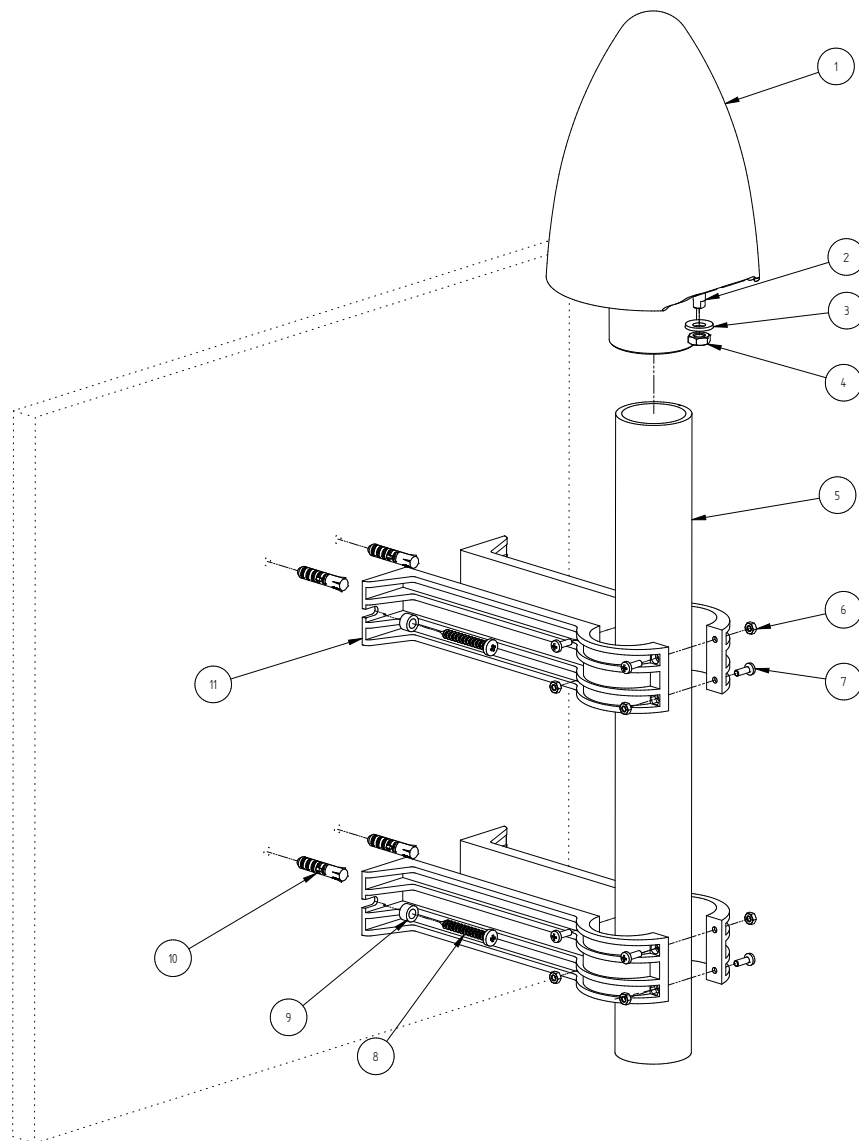

Figure 8.5: Mounting a Meinberg GNSS antenna onto a wall
Fig. 8.5 illustrates the installation of a Meinberg GNSS antenna on a wall.
1. Insert the antenna tube (Item 5 in Fig. 8.5) into the designated rounded recesses of the two pairs of antenna tube clamp halves (Item 11). Secure the tube inside each of the two clamps (Item 11) using four M4x12 Phillips screws (Item 7) and corresponding M4 hex nuts (Item 6). To ensure that the tube (Item 5) is as secure as possible, the top and bottom M4x12 screws (Item 7) of each tube clamp should be inserted from opposing directions as shown in Fig. 8.5.